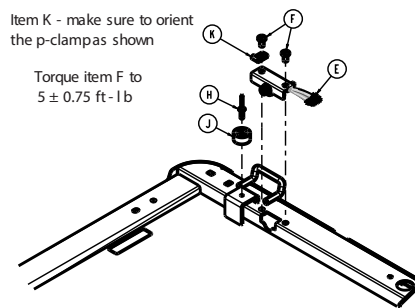

Figure 24 – Removing the cable
18. Using a T30 Torx driver, remove the two screws (F) that secure the pendant port/bracket assembly (E) to the Fowler weldment (Figure 24). Save the screws.